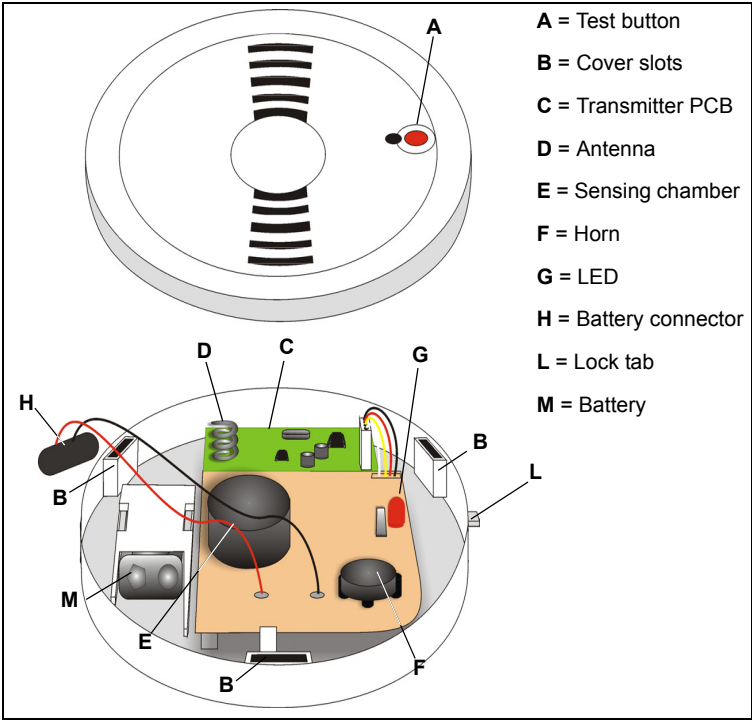

Figure 2: Mounting
For optimal detection, the unit should be mounted as close to the center of the ceiling as possible. Always test the unit before it has been powered and after installation as outlined in “Testing the Smoke Detector”. After selecting the detector's location, drill or punch out holes for the screws as shown in Figure 2 on reverse and follow the steps outlined below.
4. Join the detector to the mounting bracket, by aligning the lock tab to the preferred lock slot (Figure 2 on reverse), then turn counter-clockwise to lock detector into place.
Remove the detector from the mounting bracket by gently pulling the detector, then turning clockwise as shown in Figure 2 on reverse.